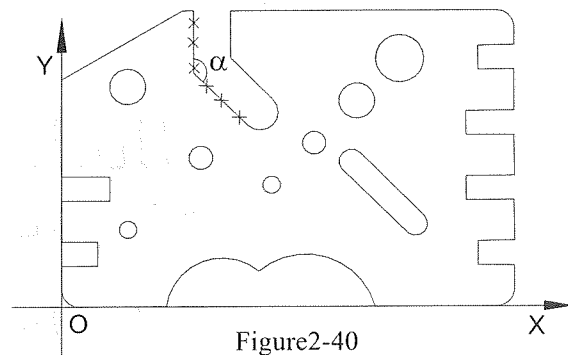

Figure2-40
- a. Press the  key to measure an angle α in figure 2-40. The message is displayed as in figure 2-42.